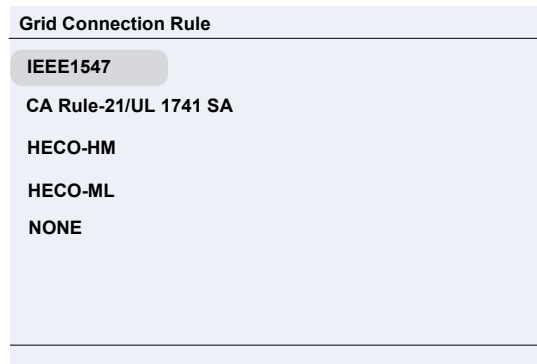

Figure 5-2- Select Grid Standard; ML-Molokai/Lanai; OHM- O`ahu, Maui, and Hawai`i
- c. The default grid standard is IEEE 1547. If a different standard is needed please go to “Menu Functions” section for further instructions on how to change it. Available grid standards are shown in Figure 5-2.